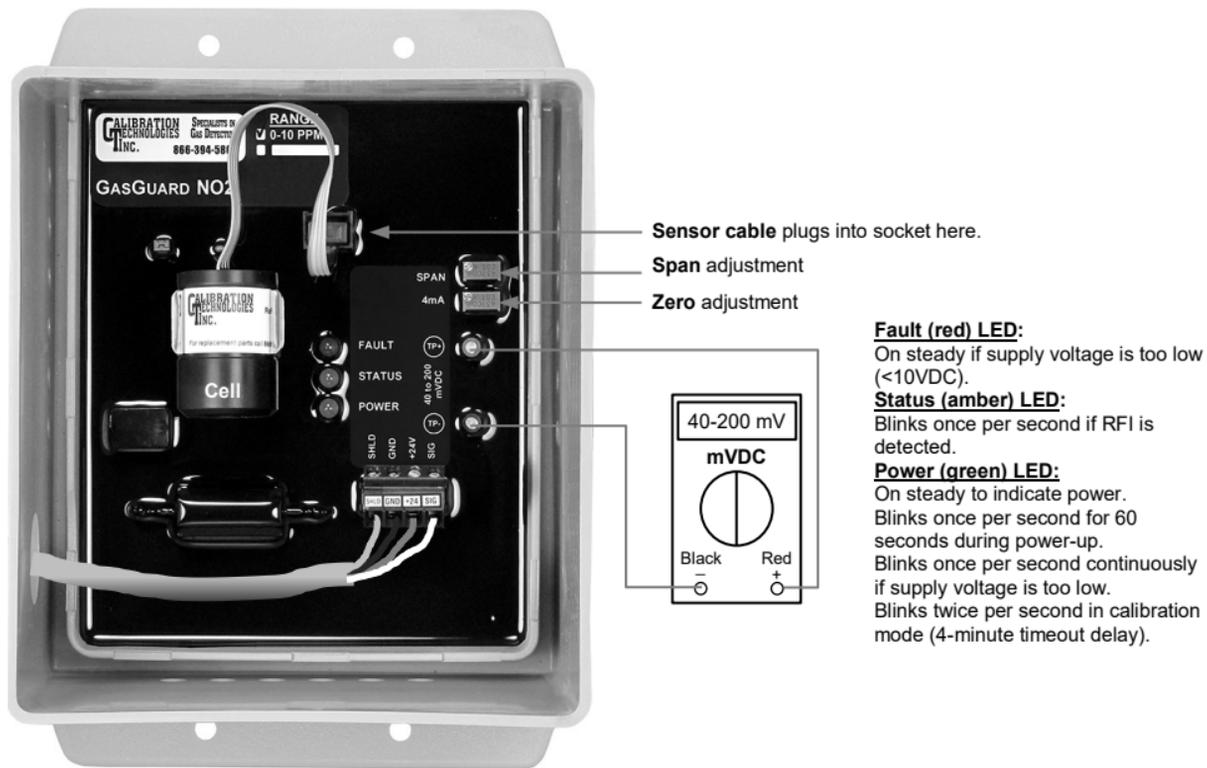

Figure 3: Sensor board components and zero/span adjustments
LED functions (see Figure 3 on page 8)
The GasGuard NO₂ sensor comes factory calibrated and should require only minimal adjustments after installation. There are two pots on the preamp that are used for calibration (see **Figure 3**).
- Adjust the Zero pot until the sensor outputs 40 mV from Test [-] to Test [+] (see **Figure 3**).
- Once the output signal has peaked (or 5 minutes maximum) adjust the Span pot until the correct output is achieved (see **Figure 3**). With full-scale span gas, the calculated span value is 200 mV. ((span gas / sensor range * 16 + 4) (mA output))